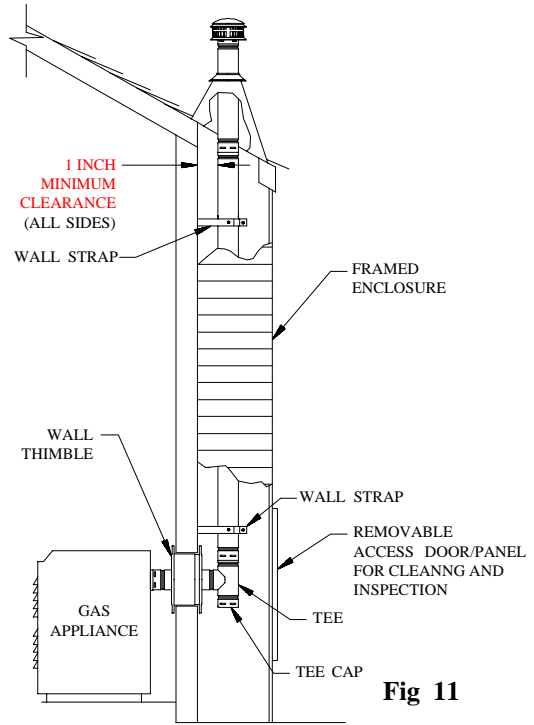

Fig 11
8. **Tees and Wyes.** **Tees** and **Wyes** are used to combine connectors from 2 or more appliances into a common vent as shown in **Figures 2** and **3**. A **Tee** should be used in a through-the-wall application, (**Figure 11**), as they have a removable **Tee Cap** (available as a separate item) attached to the bottom. This **Tee Cap** may be removed in order to inspect the system, or to clean out debris or collected condensate from the common vent. **Wall Straps** should be used to support the vertical pipe as needed to provide a secure installation. **Wall Straps** every four feet are recommended.
burns. **Figure 1** (page 2) shows a system which passes through an occupied second floor. Simpson Dura-Vent does not recommend installation of B-Vent Pipe on the outside wall of a building, particularly in cold climates. If it is necessary to do this, enclose the outside portion of the system in a chase, as shown in **Figure 11**. It would be wise to consult the Local Authority prior to construction. Note that the enclosure requires an access door for inspection and maintenance purposes.